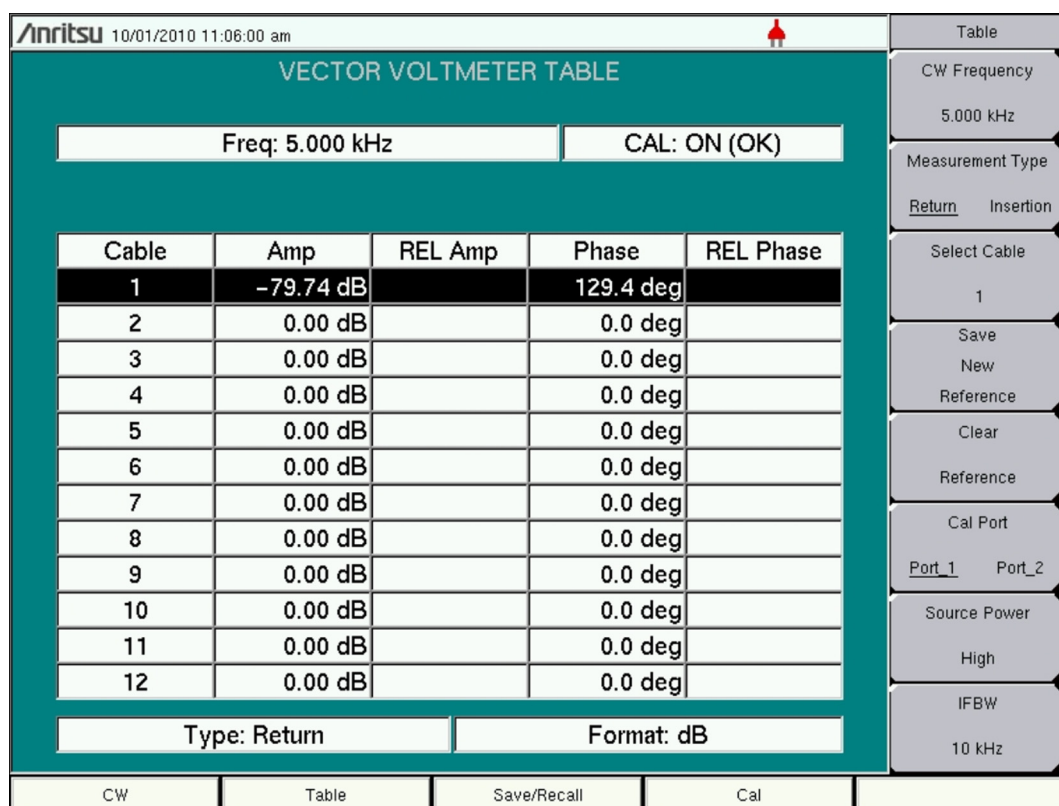

Figure 11-6. Vector Voltmeter Measurement Table – MS20xxC VNA Master
5. Connect the DUT for measurement. The display appears similar to that shown in Figure 11-6.